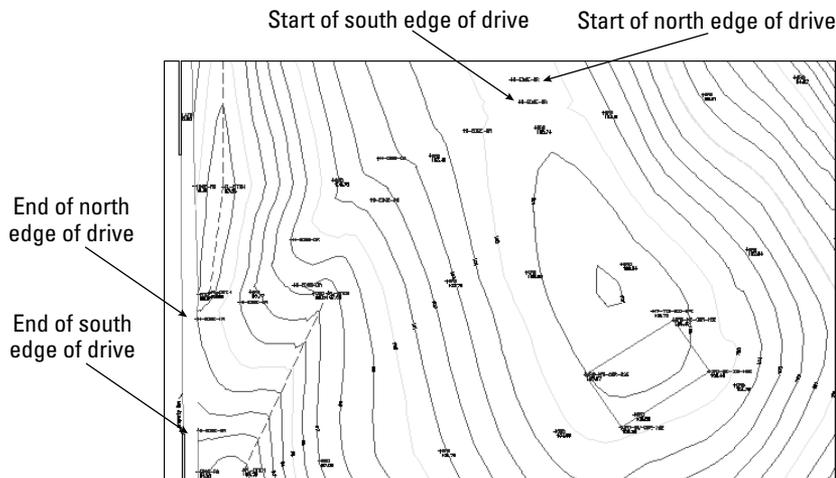

Figure 16-6: A topographical site map. You can complete the gravel road based on surveyor's data.
2. Save the file as `ab16-03.dwg` in your AutoCAD Bible folder. This is a topographical site map, shown in Figure 16-6. OSNAP should be on. Set a running object snap for insertion.
4. At the Specify first point or [Object]: prompt, use the Insert object snap to pick the cross at the start of the north edge of the drive, as shown in Figure 16-6. Continue to pick the crosses marked N-EDGE-DR. Choose Pan from the Standard toolbar to do a real-time pan when you reach the edge of the display. Press Esc. Continue picking points until you get to the end of the north edge of the drive, as shown in Figure 16-6. Press Enter to end point selection.
6. Start the SPLINE command again and pick points for the south edge of the drive, from the start of the south edge of the drive to the end, as shown in Figure 16-6. Pan as necessary. Again, press Enter to accept the default directions for the start and end tangents.